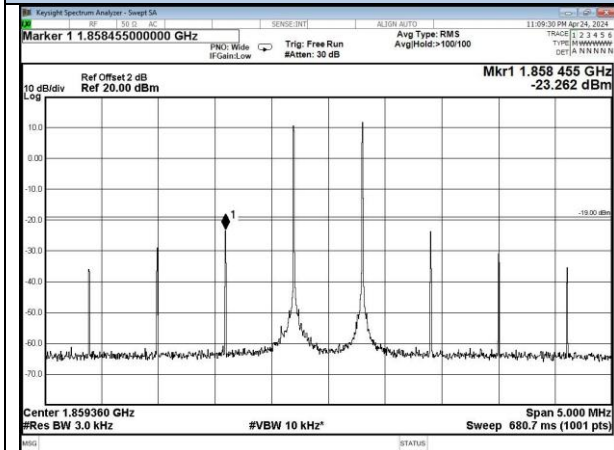

Figure 2 – Intermodulation product instrumentation test setup
- Connect the signal booster to the test equipment as shown in Figure 2. Begin with the uplink output (donor) port connected to the spectrum analyzer.